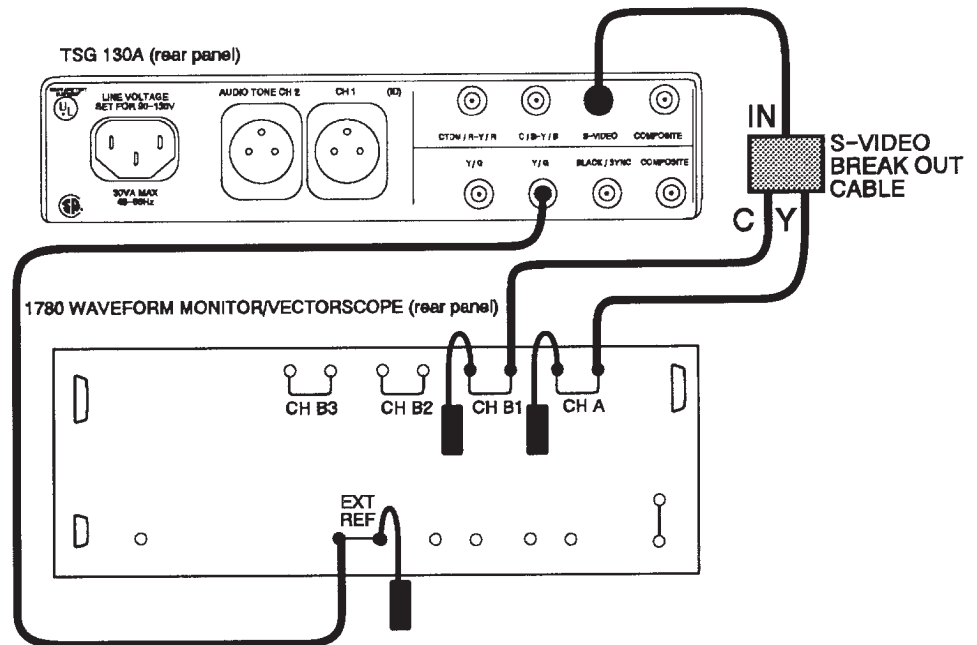

Figure 5-5: Setup to check S-video output
- a. Connect the test equipment as shown in Figure 5-5.